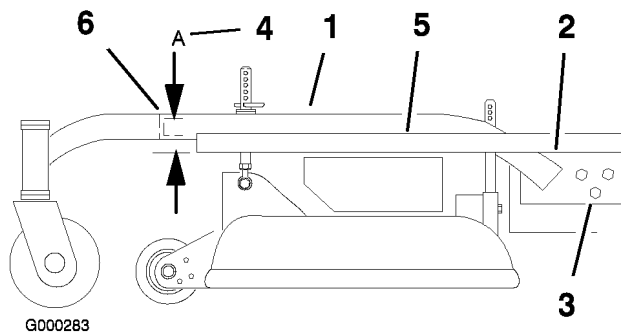

Figure 56
- Place a long straight edge on top of the engine deck as shown in Figure 56.
- At the carrier frame cross tube, measure the height at location **A** (Figure 56). This measurement must be 1-5/16 inch (33 mm), plus or minus a 1/4 inch (6 mm).
- Loosen the carrier frame mounting bolts on both sides of the machine (Figure 56).
- Align the carrier frame and engine deck to match 1-5/16 inch (33 mm), plus or minus a 1/4 inch (6 mm) at location **A** (Figure 56).